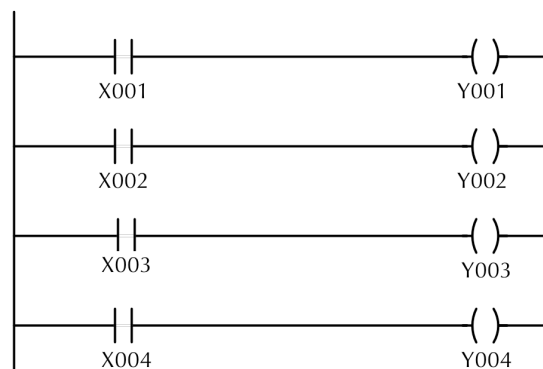

Figure 7.11: Digital Input and Output
2. Launch the CLICK programming software by opening the program file *Ladder-1.ckp* found in the *PLC Lab Exercises* folder on the desktop. This file contains the program shown in Figure 7.11